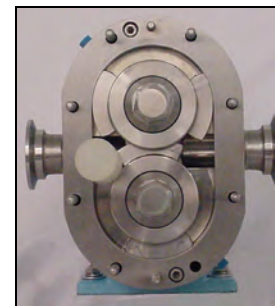

Figure 34 - Loosening Bottom Rotor
1. Use blocking dowel to keep rotors from turning when removing rotor nuts. Always use dowel to block rotor against body, not against other rotor. See Figure 32 through Figure 34.